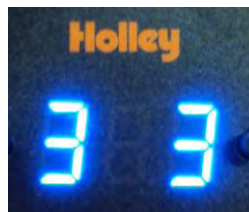

Figure 6
- SETTING 3** - This setting is used for the intensity of the LED lights on the gauge with the headlights on (0 = dim and 9 = bright). This shows that you are on the 3rd setting and the level of brightness is 3 (**Figure 6**).